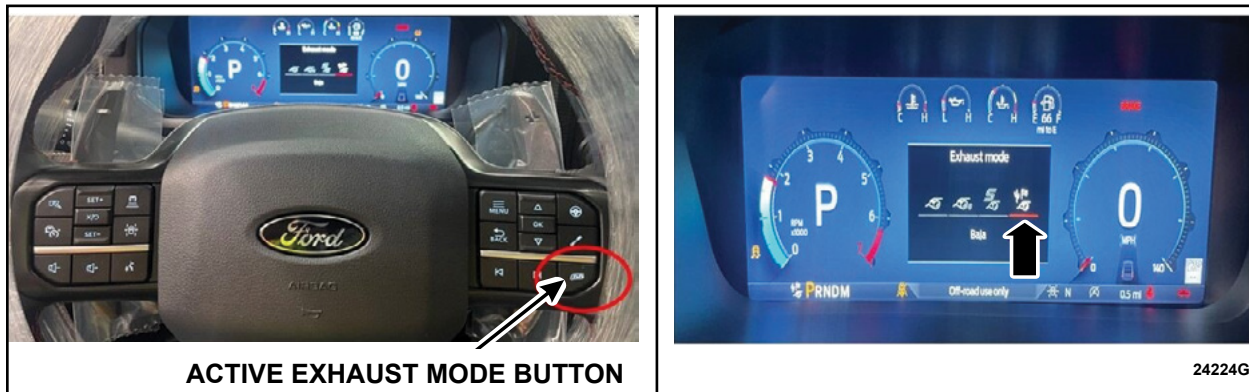

FIGURE 7
13. If equipped, press the active exhaust mode button on the steering wheel until the cluster display shows Baja mode. See Figure 7.